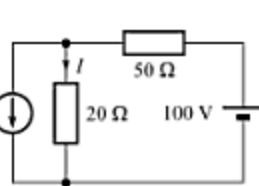

Fig. 4.39
- Find the current through $20\text{-}\Omega$ resistor in the circuit shown in Fig. 4.39, using superposition theorem.